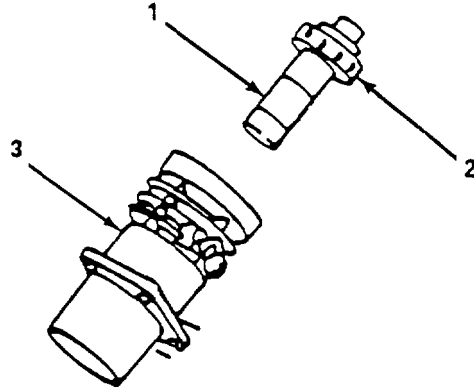

Figure 6-8. 4th Stage Cylinder and Piston, Repair.
- (7) Remove four studs (11).
- (8) Install four studs (11).
- (9) Install guide piston (9) on connecting rod (10).
- (10) Install guide piston pin (7) through guide piston (9) and connecting rod (10).
- (11) Using circlip pliers, install two circlips (8).
- (12) Position preformed packing (6) on upper crankcase (4).
- (13) Install piston and sleeve assembly (5) into cylinder (3).
- (14) Install piston and sleeve assembly (5) onto to guide piston (9).
- (15) Position cylinder (3) down until it seats on preformed packing (6) and crankcase (4).
- (16) Install four washers (2) and nuts (1).
b. Repair. (figure 6-8)
- (1) Remove 4th stage cylinder and piston (para. a. above).